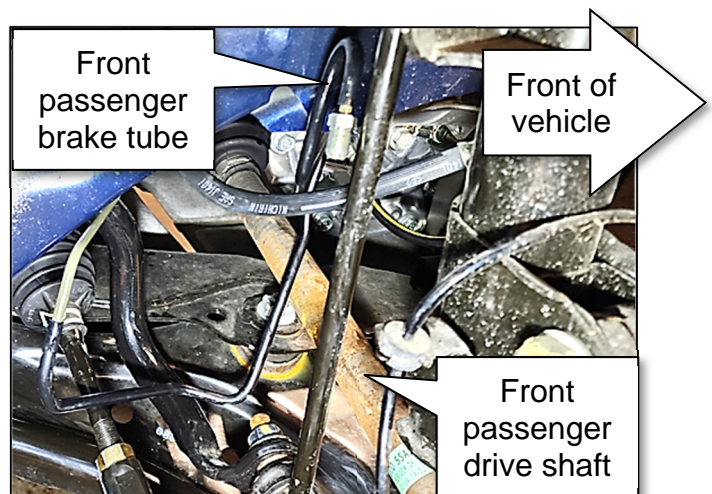

Figure 8
- Lower the brake tube down, toward the rear of the front passenger drive shaft assembly, as shown in Figure 8.